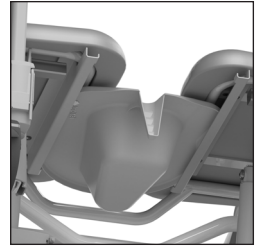

Figure 26. Bedpan.
- The bedpan or bucket is inserted at the rear of the chair (See figure 26).